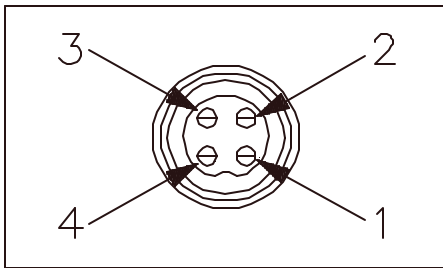

Fig. 5 Microphone plug pin numbers viewed from rear of pin receptacle.
5. The wires must now be soldered to the pins as indicated in the above wiring tables. If a vise or clamping tool is available it should be used to hold the pin receptacle body during the soldering operation, so that both hands are free to perform the soldering. If a vise or clamping tool is not available, the pin receptacle body can be held in a stationary position by inserting it into the microphone jack of the front panel. The numbers of the pins of the microphone plug are shown in Fig. 5, as viewed from the back of the plug. Before soldering the wire to the pins, pre-tin the wire receptacle of each pin of the plug.